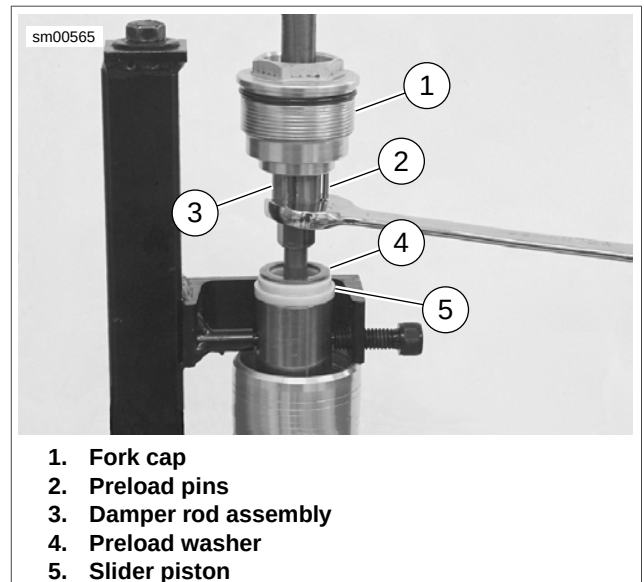

Figure 2-78. Holding Damper Rod Assembly
7. See Figure 2-78. Hold damper rod assembly (3) and remove fork cap (1).